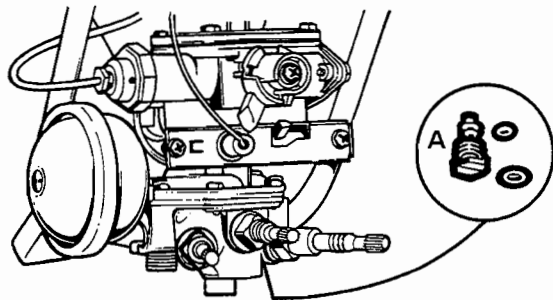

Fig. 23
a) Unscrew the slow ignition device (A) anti-clockwise and remove (see fig. 23).